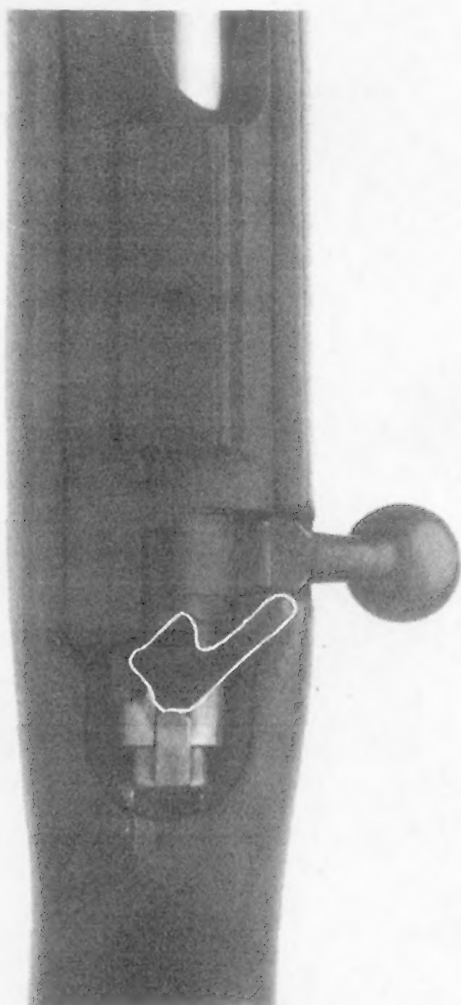

Figure 2
**WARNING** When engaging the safety, be sure that it is moved all the way to the extreme right position. The safety lever will engage the cocking sleeve of the bolt. (See Figure 2) There is extra resistance to the safety movement and this should not be confused with the true safety position.